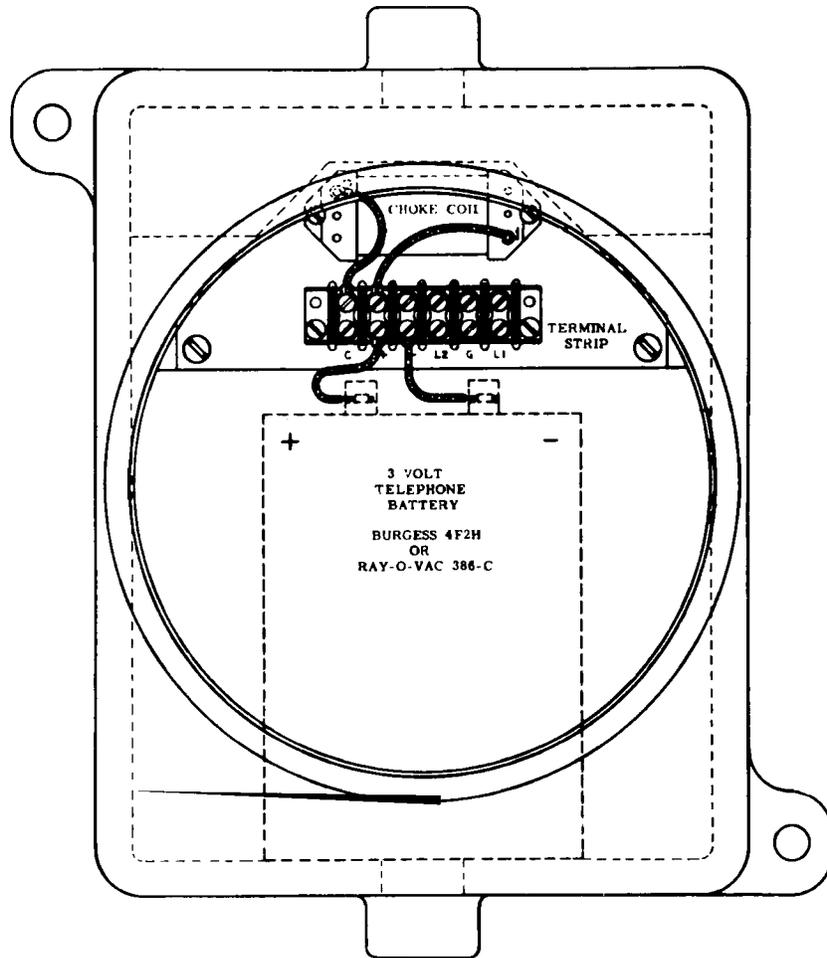

Fig. 14: Battery Box (Cover Removed)
- (g) In the battery box, connect the wires from the instrument and the wires from the line cut-off switch to the terminal strip as shown in Figure 13. Observe color markings when making connections. (The lead represented by the broken line is required only for grounded ringing.) For the actual physical arrangement of the battery box, see Figure 14.